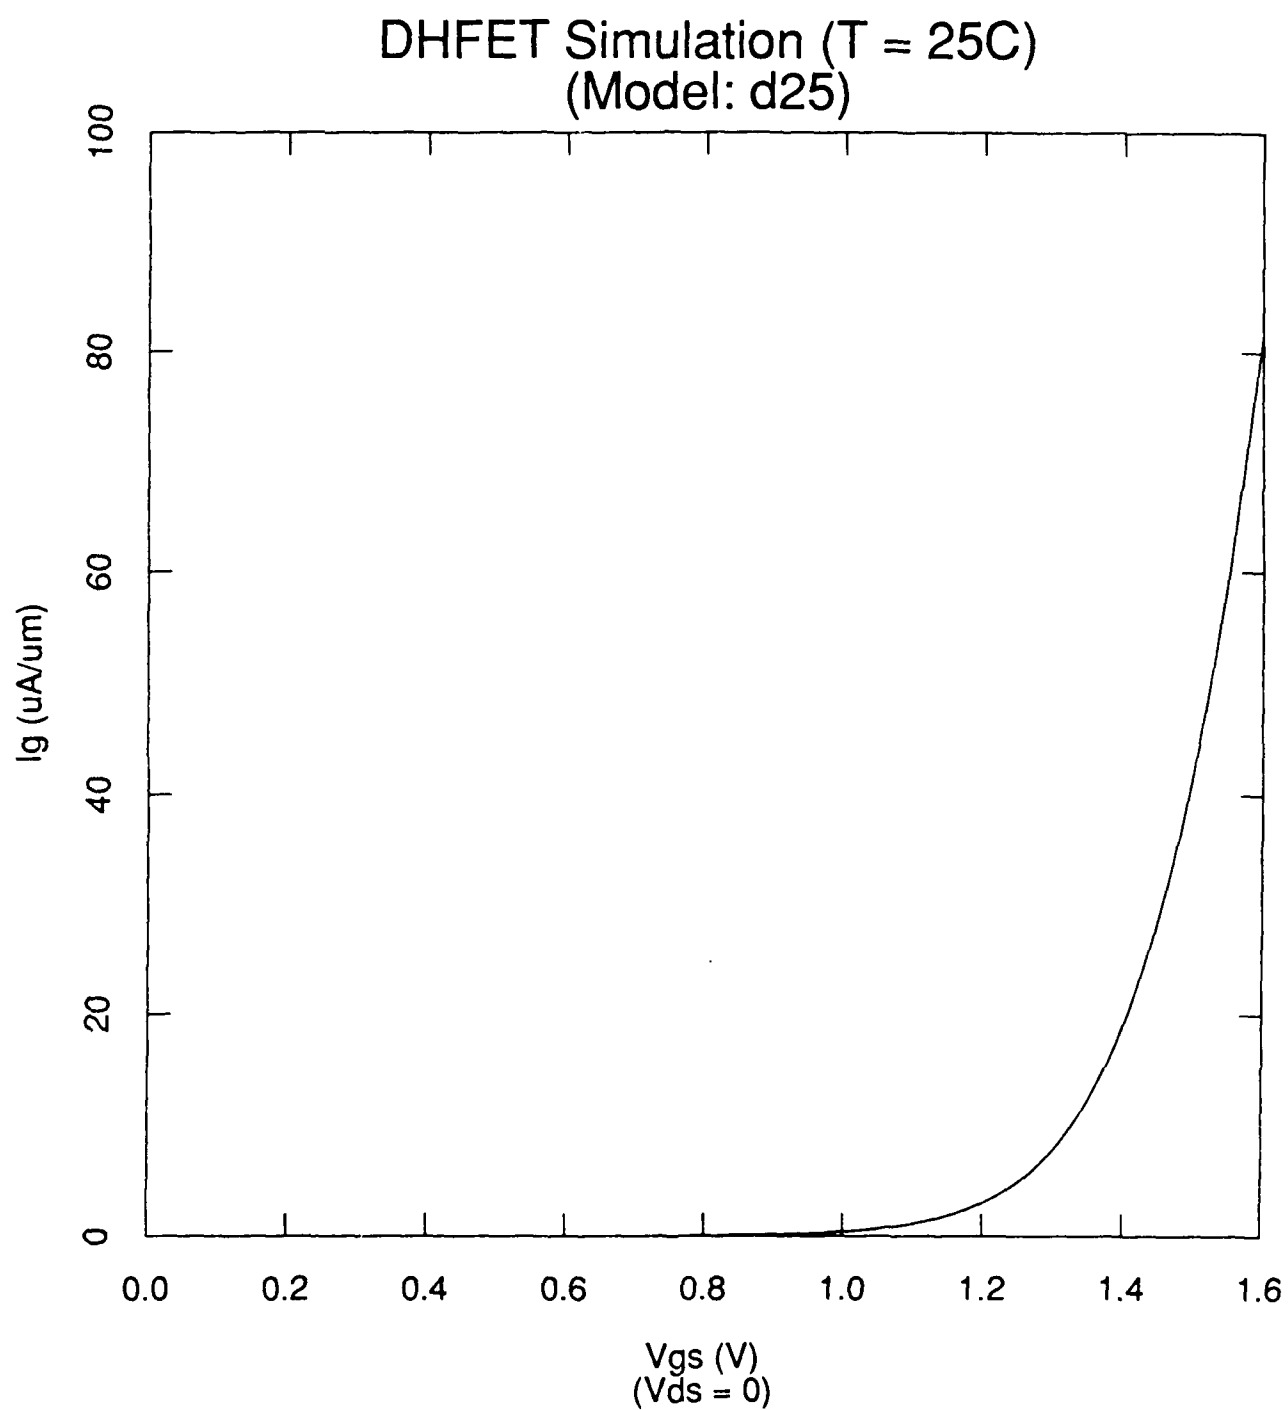

Figure 5. I_g vs. V_{gs} ($V_{ds} = 0$) for d25 DHFET Simulation at 25C.
- Figure 5. I_g vs. V_{gs} ($V_{ds} = 0$) for d25 DHFET Simulation at 25C.